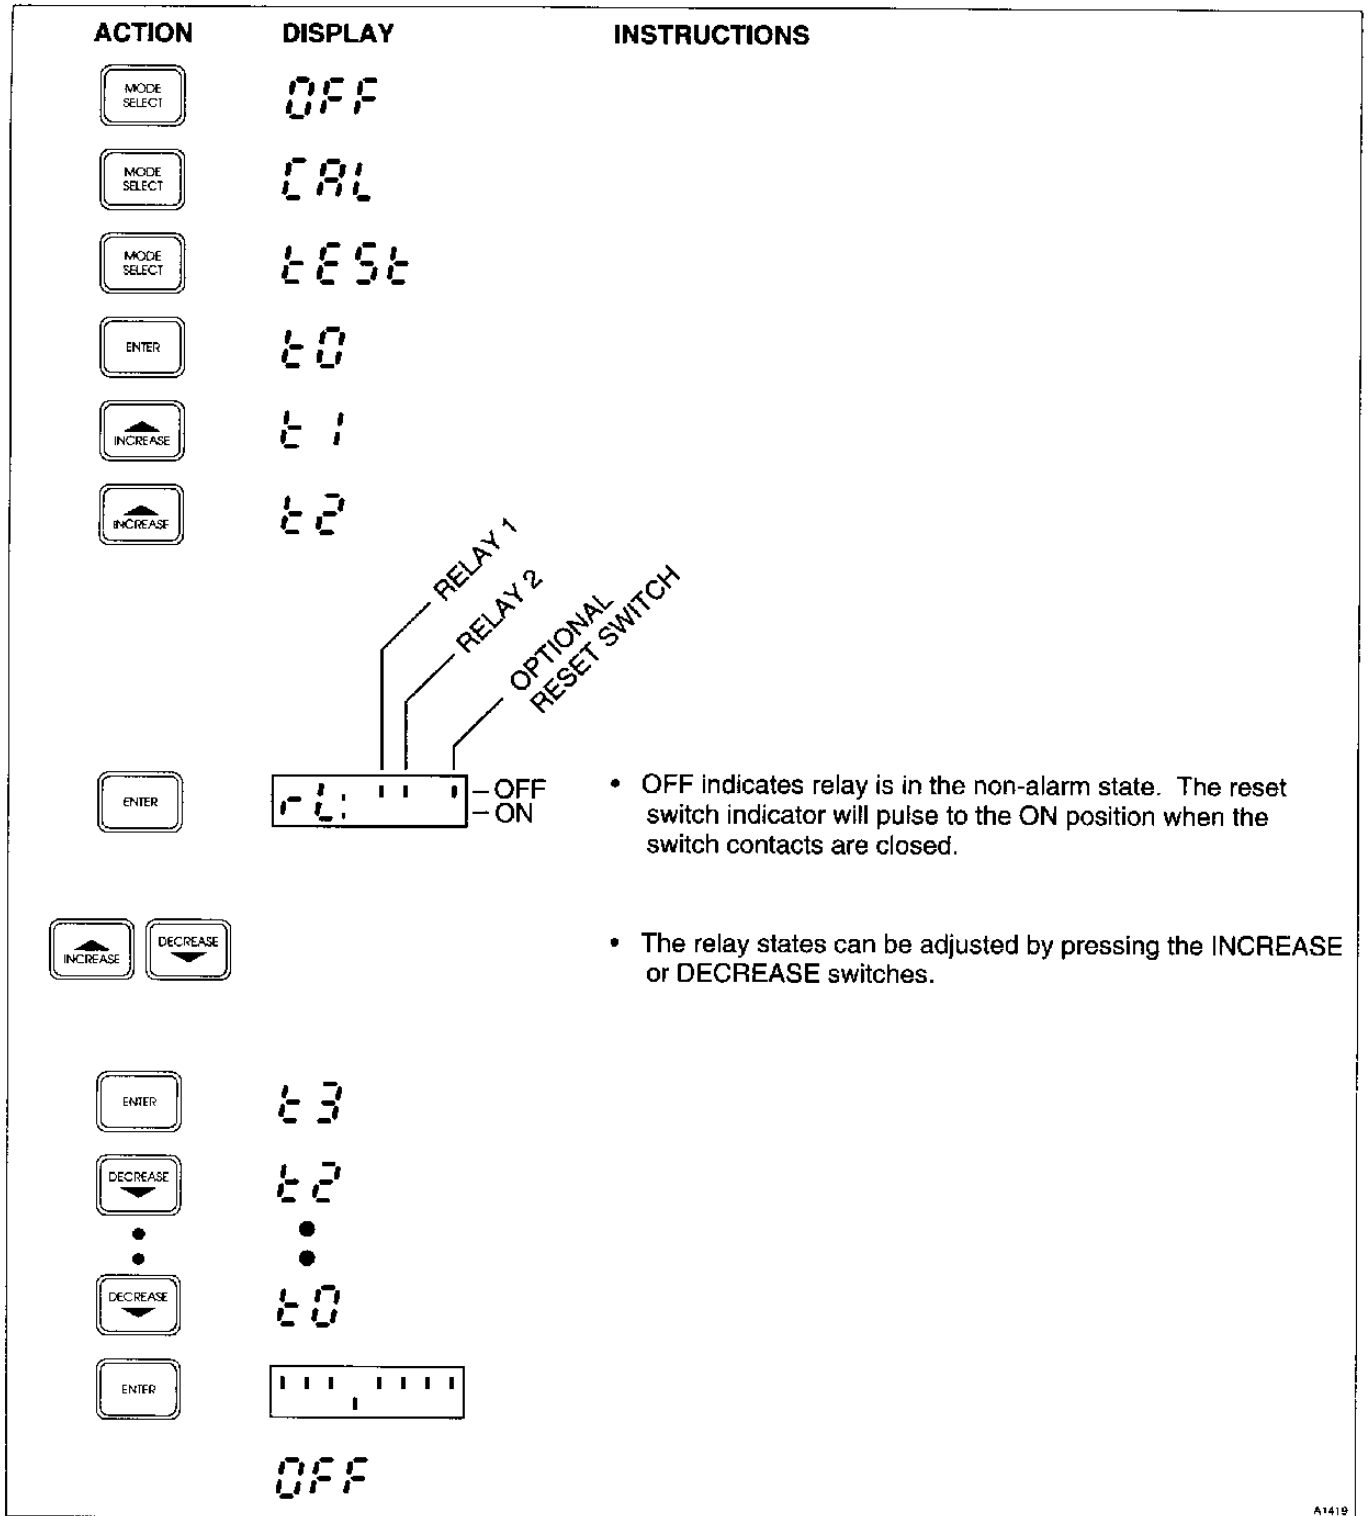

Figure 26—T2 Routine
1. Press the MODE SELECT button to show "test" on the digital display. See Figure 26.
- Press ENTER. The display shows the pattern illustrated in Figure 26. An "on" indication means that the relay is in its alarm state. The reset switch indicator goes to the "on" position when the reset switch contacts are closed.